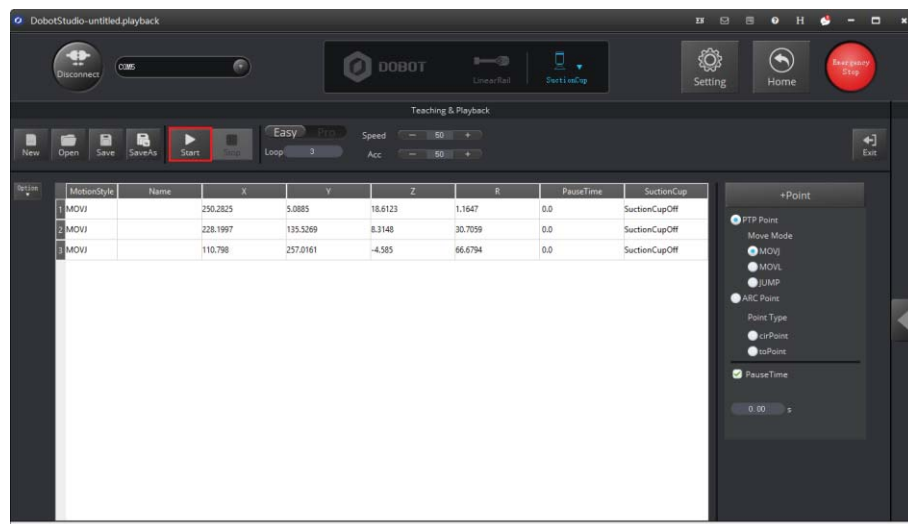

Figure 2.24 Click Start
- Click **Start** to perform the motions taught above, as shown in Figure 2.24.